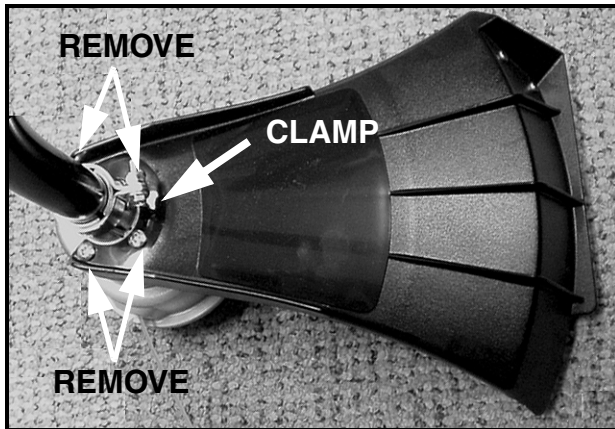

FIGURE 2
4. Remove and discard the four screws securing the shield assembly to the bushing housing assembly. See Figure 2.